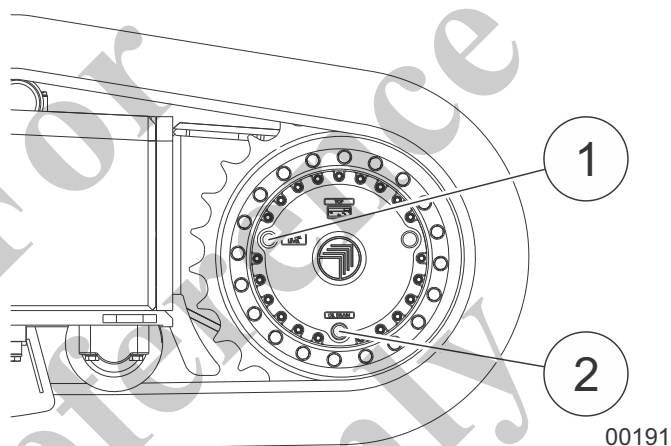

Fig. 29 Lubricating points (1) and (2) of the travel drive
1	Position the machine on level and solid ground. Position lubricating points (1) in Fig. 29 and (2) in Fig. 29 as shown.
4	Slowly unscrew closure of lubricating point (1) in Fig. 29 until oil escapes via the tapped bore. If too much oil escapes, tighten the closure.
6	To do this, completely take off the closure (1) in Fig. 29. Fill in new oil via the tapped bore until it escapes via this bore.
7	Tighten the closure (1) in Fig. 29.